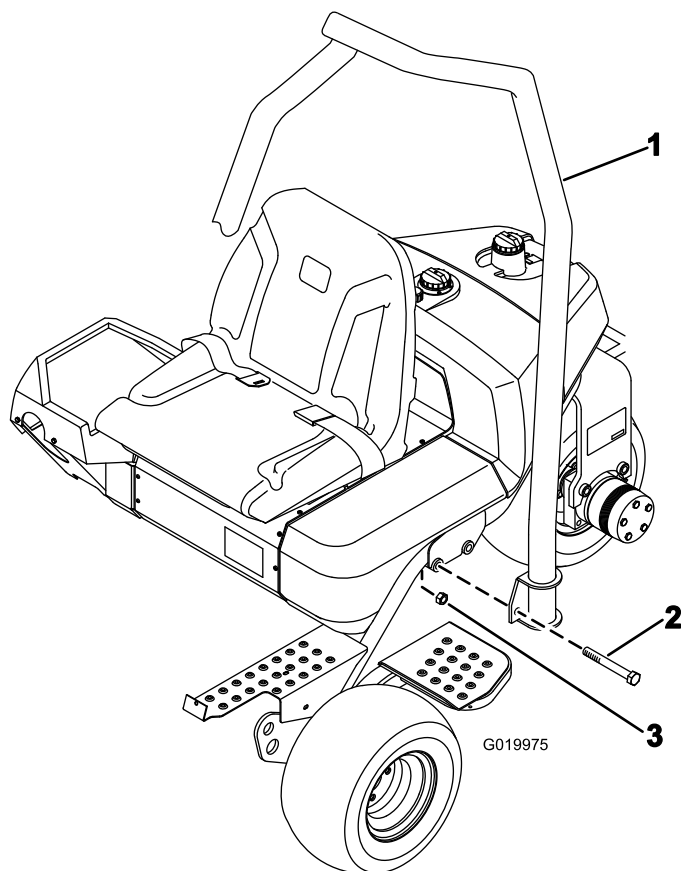

Figure 7
1. Position the ROPS so the top of the tube is curved toward the front of the machine (Figure 7).
2. Lower the ROPS onto the frame, aligning it with the mounting holes (Figure 7).
- Secure each side of the ROPS to the frame with 2 bolts (5/8 x 4-1/2 inches) and locknuts as shown in Figure 7. Torque to 183 to 223 N·m (135 to 165 ft·lb).